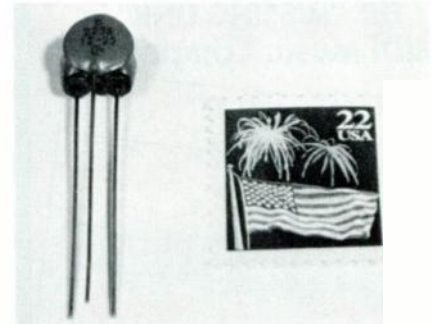

FIG. 2: Ceramic-encapsulated EMI suppressor
A. Those are ceramic-encapsulated hybrid EMI-suppression networks (see Fig. 2)—also used in Roland equipment—containing two small, cylindrical inductors, in series, with a capacitor tapped from their common connecting point to ground. These networks are wired in series with the inputs and outputs on many Casio instruments for EMI filtering. They seem to work pretty well.